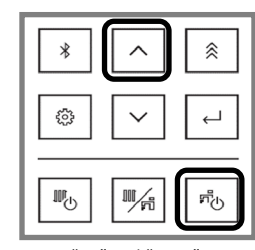

Fig 9. "Up" and "DHW" Buttons
- 1. Press and hold the "DHW" button for two seconds and then the (Up) button simultaneously (Fig 9).